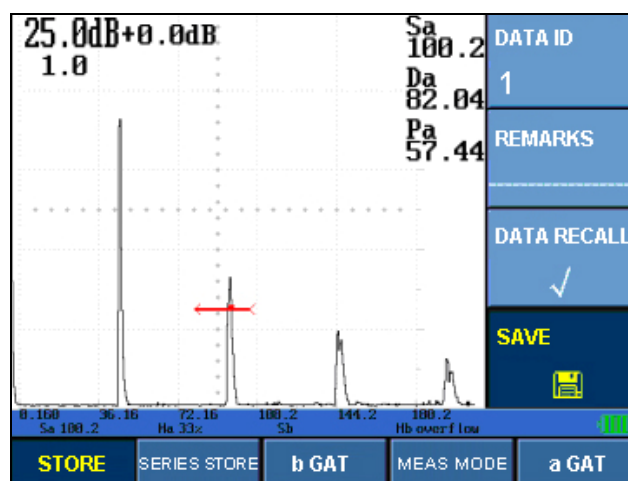

Figure 6-17 Data Store and Replay
- (1) Enter STORE main menu, select the top submenu DATA ID, menu interface as follows. Refer to Figure 6-17.
- (2) Press [+/-] key to select DATA ID.